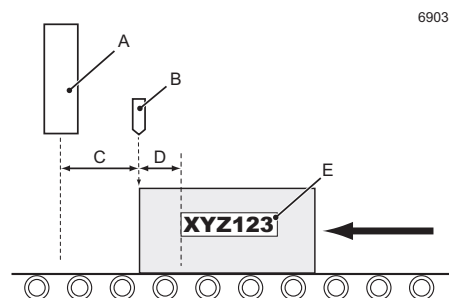

Figure 20. Print position
This section shows you how to make sure that the printed message appears in the correct position on the product. Figure 20 helps you understand the print position. The large arrow shows the direction of the movement of the product. In this example, there is a fixed distance (C) between the printhead (A) and the sensor (B) that detects the edge of the product. This distance is the ‘Trigger to Printhead Distance’. The distance is zero for some installations. The Trigger to Printhead Distance is a setting associated with a production line. The value is set during printer installation, but if necessary you can adjust the value on the **Line Settings** screen (see ‘Trigger to Printhead Distance’ on page 44)